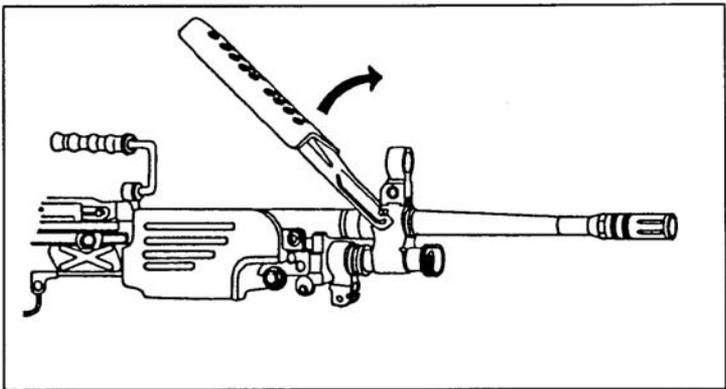

Figure 071-312-4025-6. Removal of the heat shield
d. Remove the barrel (figure 071-312-4025-7).
- (1) Ensure that the folding handle on the new style barrel is in the carrying (up) position.
- (2) Depress the barrel-locking lever with your left hand. Grasp and lift the carrying handle with your right hand. Push the barrel forward.